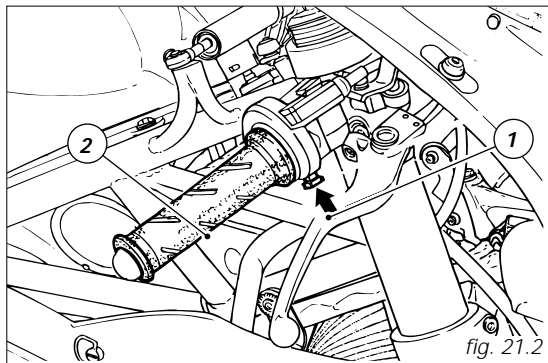

fig. 21.2
2) Press the button (1, fig. 21.2) on the throttle control.
4) Turn the twistgrip (2, fig. 21.2) clockwise (slow down), the button (1) will automatically disable.